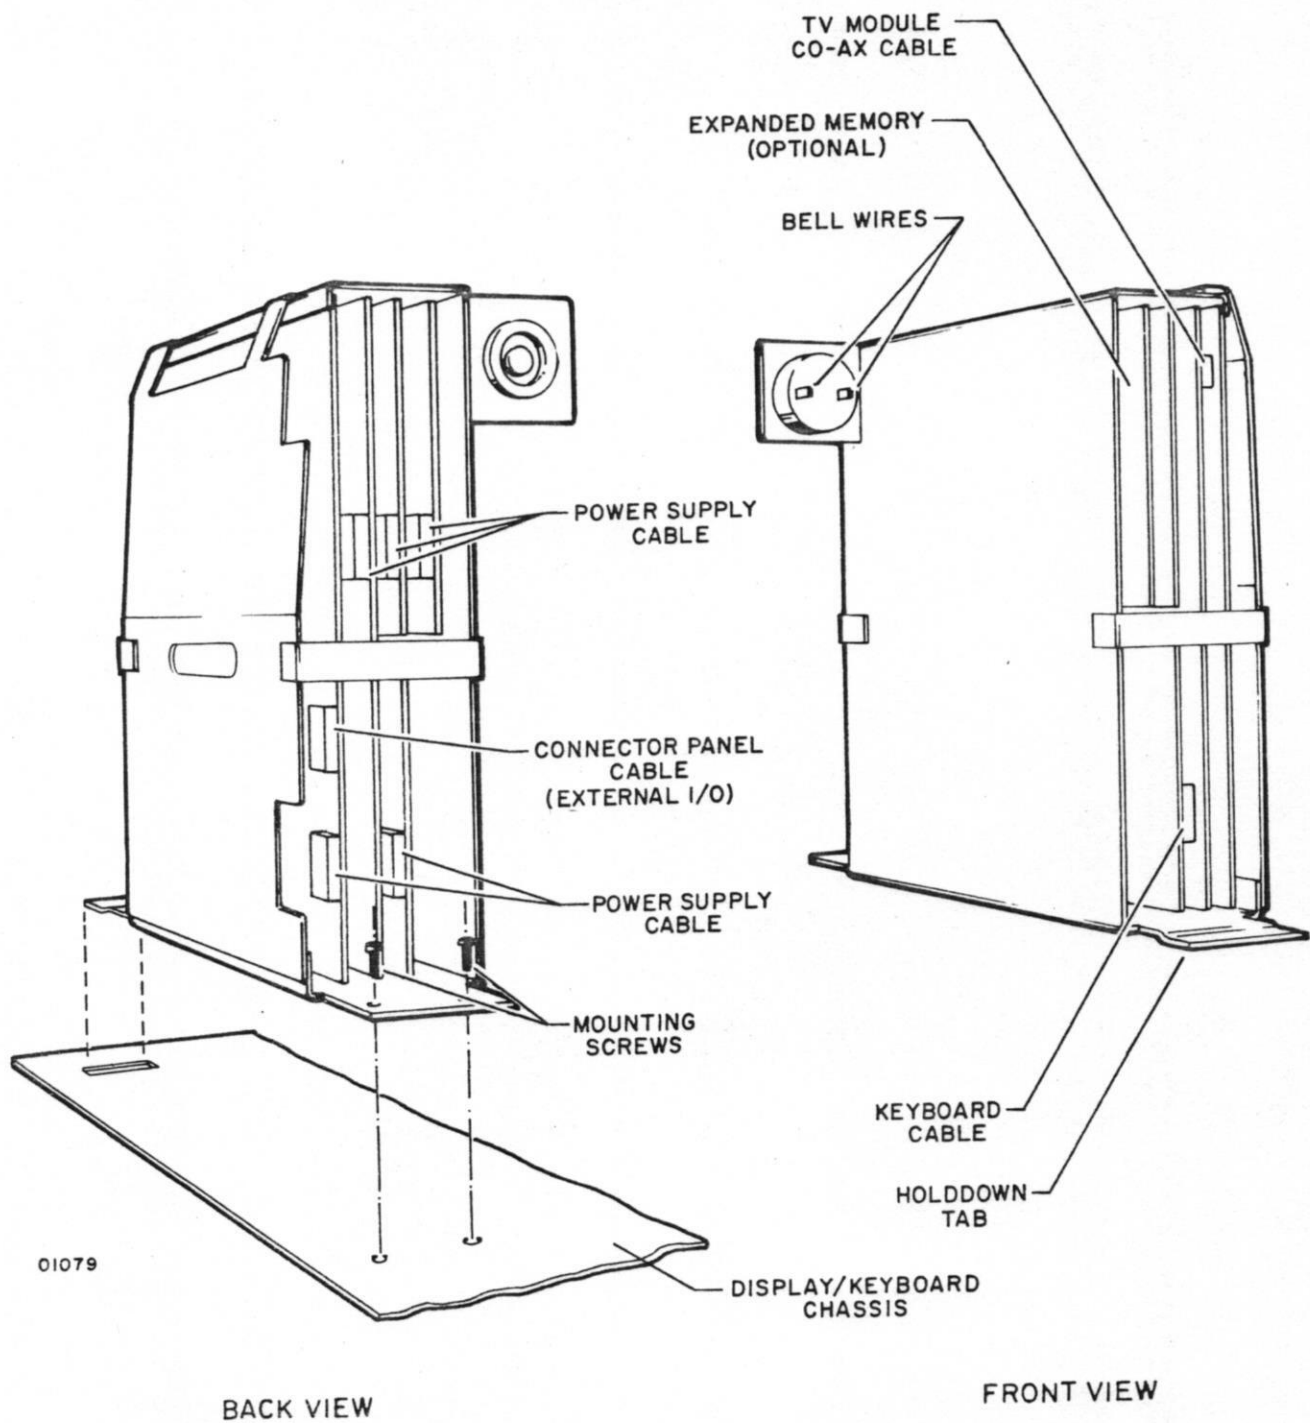

Figure 3-3. Typical Display Logic Module Installation
- Refer to the display/keyboard on-site customer engineering manual and install as specified. See figure 3-3 for illustration of installation.